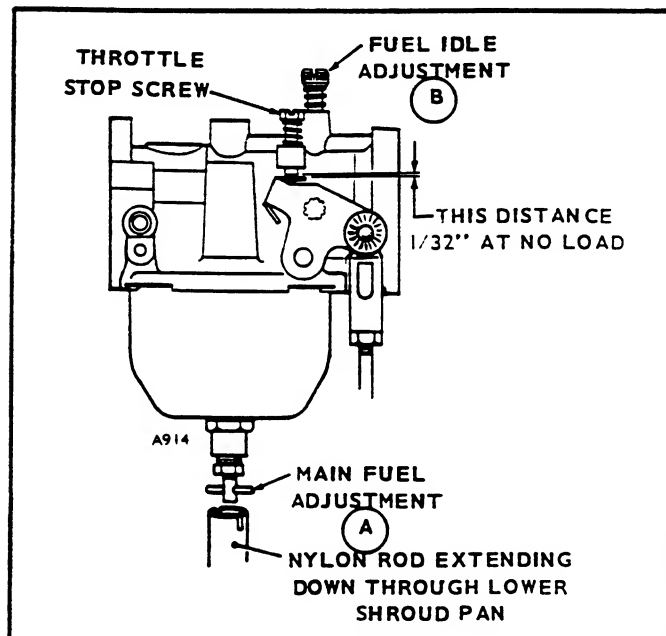
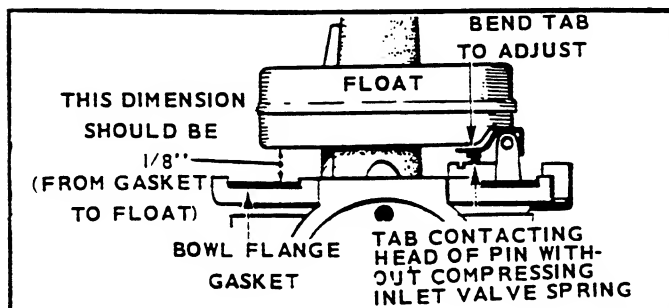

FIGURE 5. CARBURETOR ADJUSTMENTS
FIGURE 6. FLOAT ADJUSTMENT
5. Check the float level with the carburetor casting inverted. See Figure 6.
The carburetor (Figure 5) has a high speed fuel main adjustment (needle A) and a fuel idle adjustment (needle B).
With the carburetor and governor adjusted, set the throttle stop screw, Figure 5, to allow 1/32 inch clearance to the stop pin with the engine operating at no load. This prevents excessive hunting when a large load is suddenly removed.
Float Level Adjustment: To check float level remove carburetor and take off the float bowl (unscrew large nut that holds bowl, Figure 5). The proper distance from the float to the carburetor body is 1/8 inch. The float tab should just touch the fuel inlet valve. Adjust by bending the tab on the float, Figure 6.